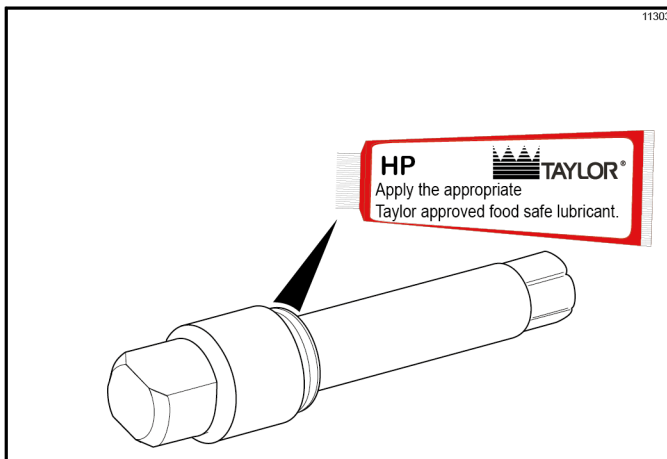

Figure 6-1
1. Lubricate the groove on the beater driveshaft. (See Figure 6-1.)